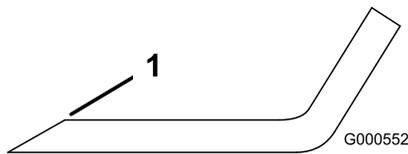

Figure 56
- Use a file to sharpen the cutting edge at both ends of the blade (Figure 56).
Note: If the blade is not balanced, file some metal off the end of the sail area only (Figure 56).